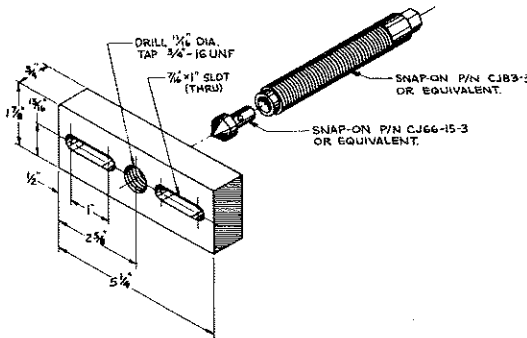

Figure 5 - Illustration of Bar Puller
16. Use bar pullers (see Fig. 5) and attach to free end plate bores. Using bar pullers, pull free end plate [4] from rotor shafts. (Note: The use of two bar pullers is recommended.)